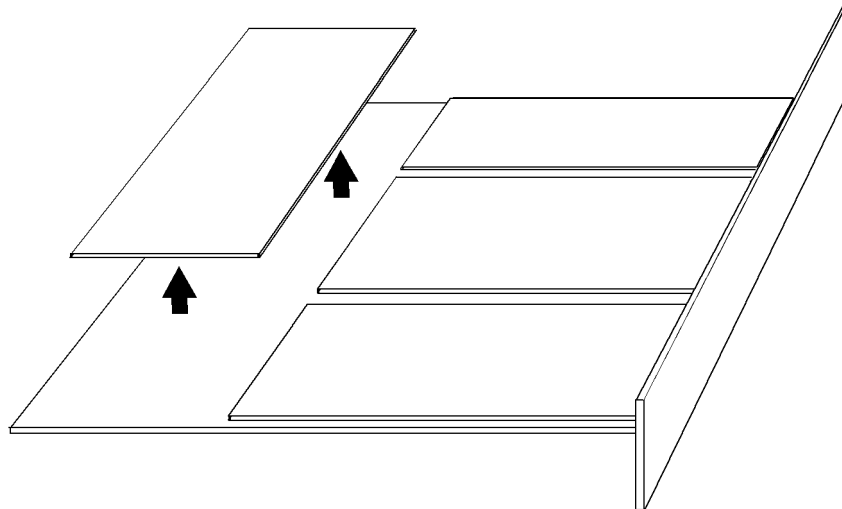

Figure 6-16. Removing the CPOD
3. While placing your fingers between the CPOD and the ICM, start with the front, then move to the sides of the CPOD carefully using gentle upward pressure to disengage the CPOD from its sockets (see Figure 6-16).
2. Position the CPOD directly over the sockets and use a firm, even pressure to seat it (reversing the procedures illustrated in Figure 6-16). Press down directly over the socket locations only.